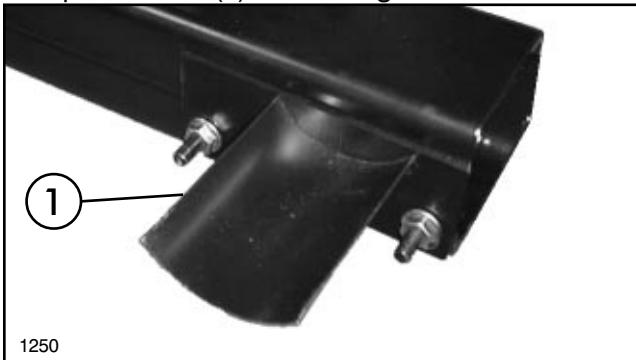

FIG. 4
- Secure the Strainer Bracket to the front R.H. side of Engine / Pump Base using studs on Engine / Pump Base and (2) 5/16" flange nuts. See FIG. 4.